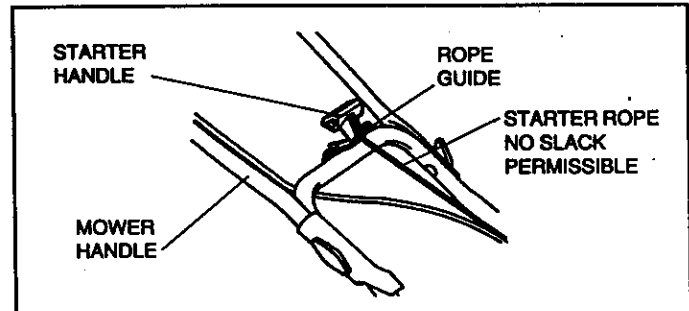
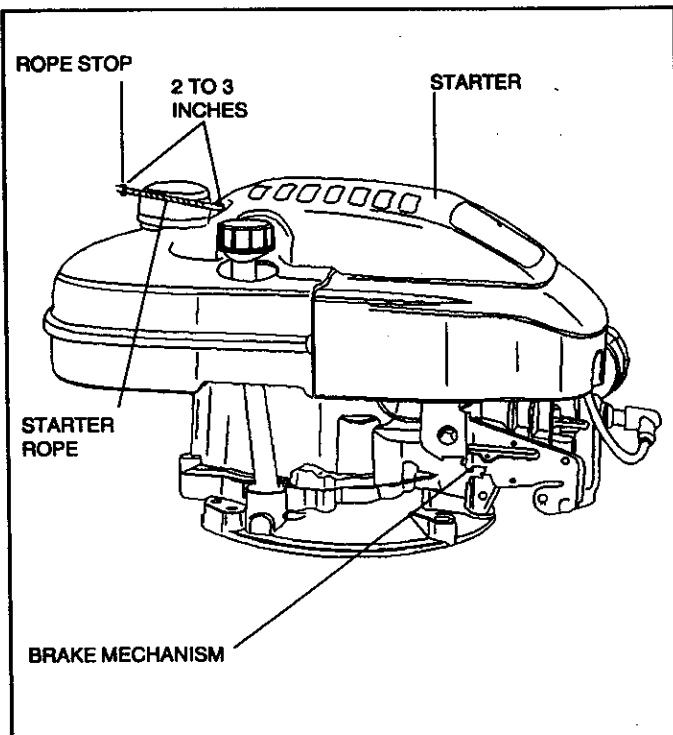

Figure 4
Figure 2
INSTALL ENGINE BRAKE CABLE AND STARTER ROPE: BRAKE CABLE (see Figure 2):
- C. Slide rope stop (see Figure 2) onto starter rope and feed starter rope through rope guide on mower handle (see Figure 4).
- E. With starter handle resting on rope guide (see Figure 4), check starter rope for slack. If there is any slack, pull more starter rope through starter handle and relocate left hand knot to eliminate slack.
- H. Position rope stop 2 to 3 inches from starter (see Figure 2) and fasten it to starter rope by gripping it with pliers and forcing staple through starter rope until staple is even with outside of rope stop.
③ CHECK OIL LEVEL:
C. Grasp starter handle (see Figure 4) and pull rope out, slowly, until it pulls slightly harder. Let rope rewind slowly. Then pull rope with a rapid full arm stroke. Let rope rewind SLOWLY. Do not let starter handle snap back against rope guide (see Figure 4).